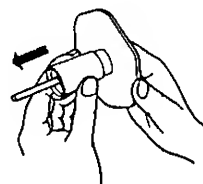

Fig. 13
3. The wound-up portion of the paper can easily be removed from the Reel by pulling it side way. (Fig. 13)